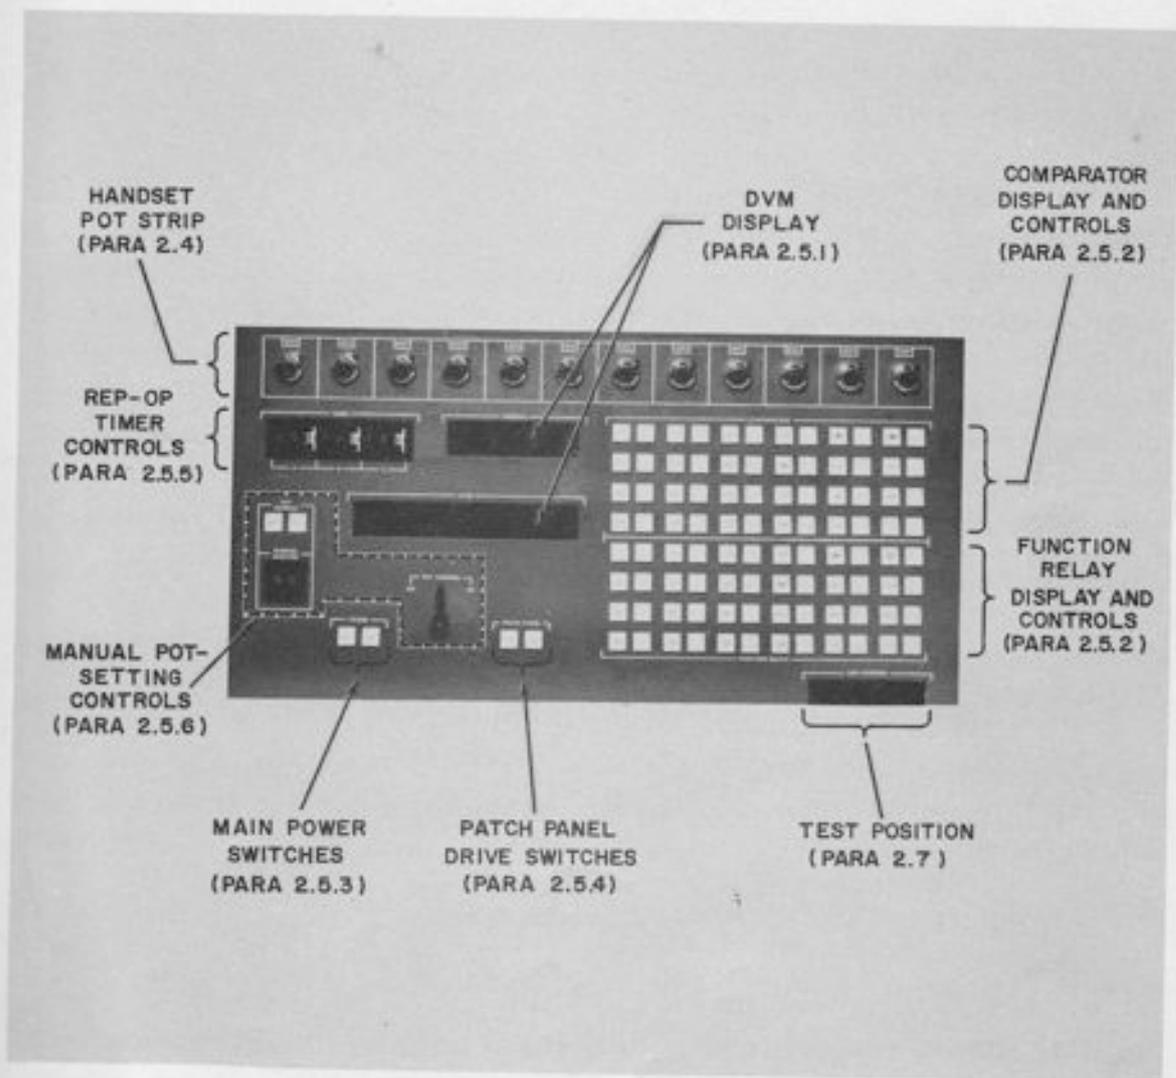

Figure 2.3. The Analog Readout Panel
2.4 THE HANDSET POT STRIP (Figure 2.3)
2.5 THE ANALOG READOUT PANEL (Figure 2.3)